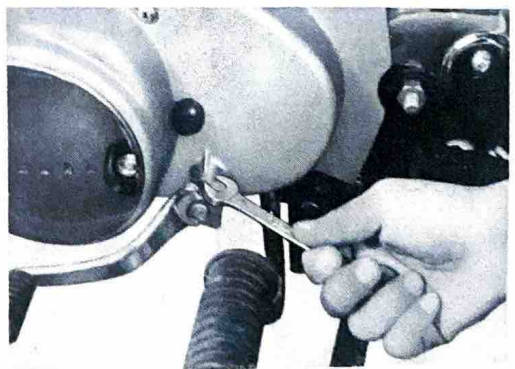

Fig. 4-1-3
3. Remove the foot rest, change pedal and crankcase cover (L) (Fig. 4-1-3)